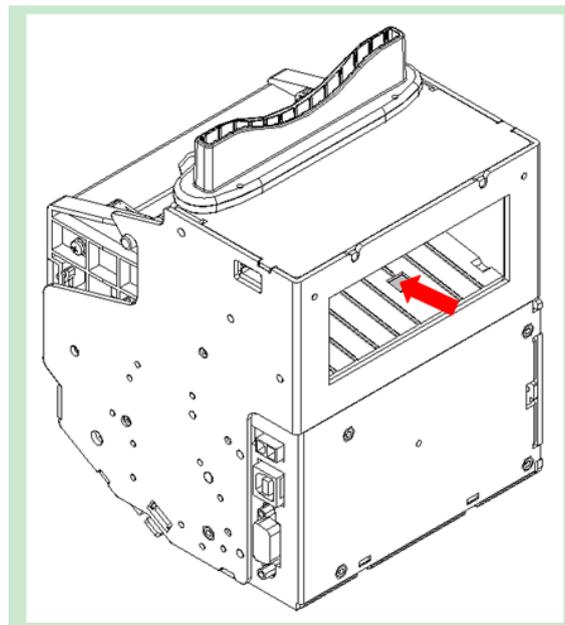

Figure 5.4-1 Cleaning retraction sensor
- 2) Shown as in Fig.5.4-1, you can view the retraction sensor at the retraction path of PRESENTER. Wipe off dust and stains on the sensor surface with soft cotton cloth dipped with pure alcohol (it should be wrung out);